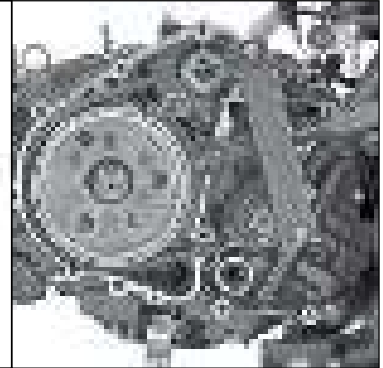

Fig. 1.19B
- Used to hold the magneto rotor while removing/assembling the primary drive gear and magneto rotor nuts. (Fig. 1.19B)